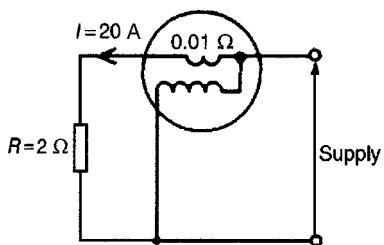

Figure 10.13
(b) A wattmeter, whose current coil has a resistance of 0.01Ω is connected as shown in Fig. 10.13. Determine the wattmeter reading.
- 2 (a) A current of 15 A flows through a load having a resistance of 4Ω . Determine the power dissipated in the load. (b) A wattmeter, whose current coil has a resistance of 0.02Ω is connected (as shown in Fig. 10.13) to measure the power in the load. Determine the wattmeter reading assuming the current in the load is still 15 A.